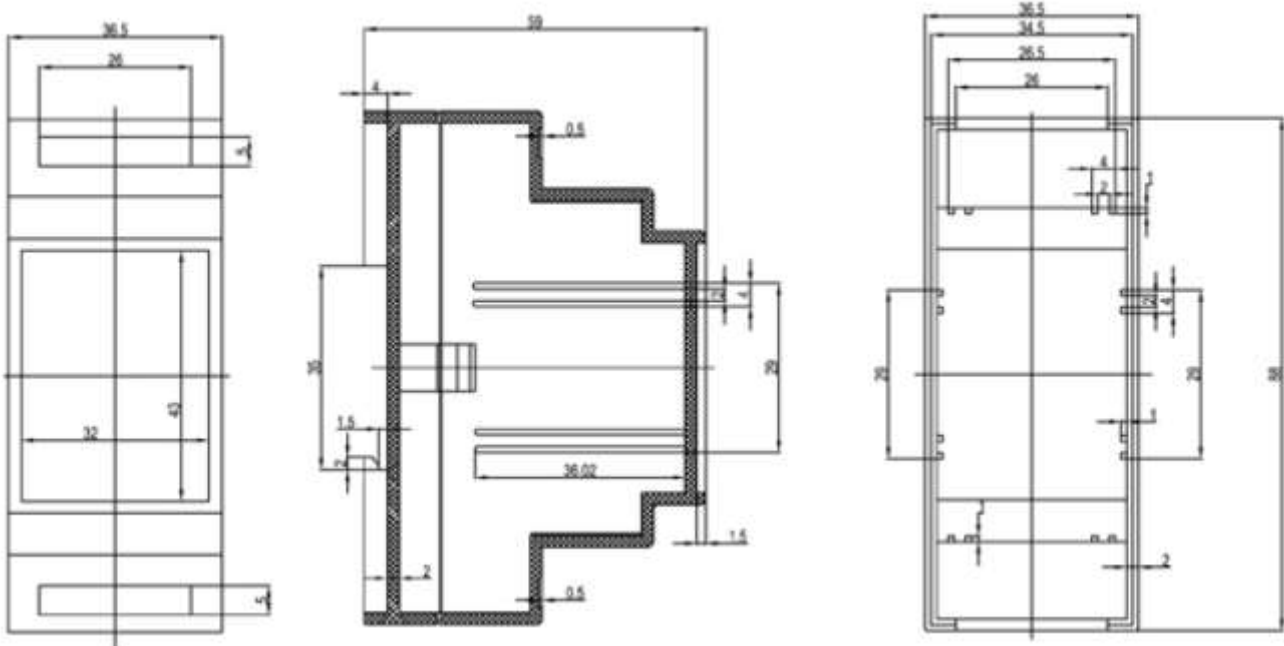

Figure 2: Box Dimensions
- For more details on dimension of the board, please refer to Figure 2.